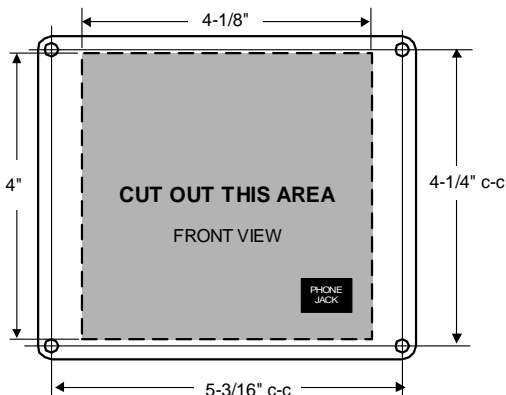

Figure 2-1 Installation Dimensions
1. Refer to Figure 2-1 for hole and cutout dimensions or install the remote in a standard double-gang outlet box.